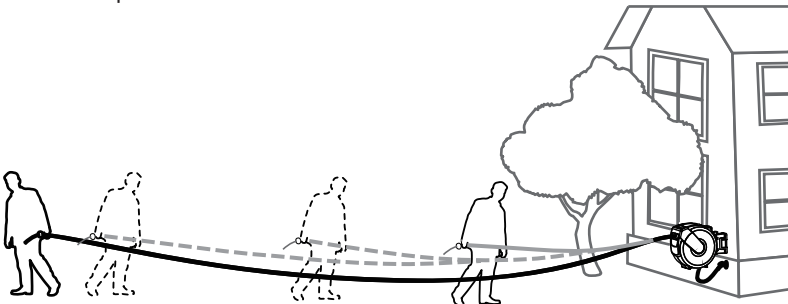

FIG. 3
- Pull the hose to the desired length — it locks automatically (Fig. 3).